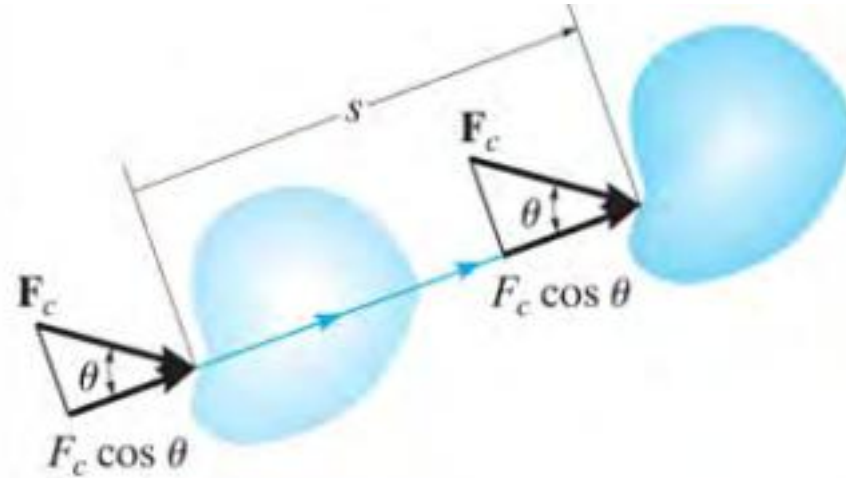

Figure 1. work of constant applied force
- If an external force  $F_c$  acts on a body, Fig. 1, and maintains a constant magnitude  $F_c$  and constant direction  $\theta$ , while the body undergoes a translation  $s$ , then the above equation can be integrated, so that the work becomes: